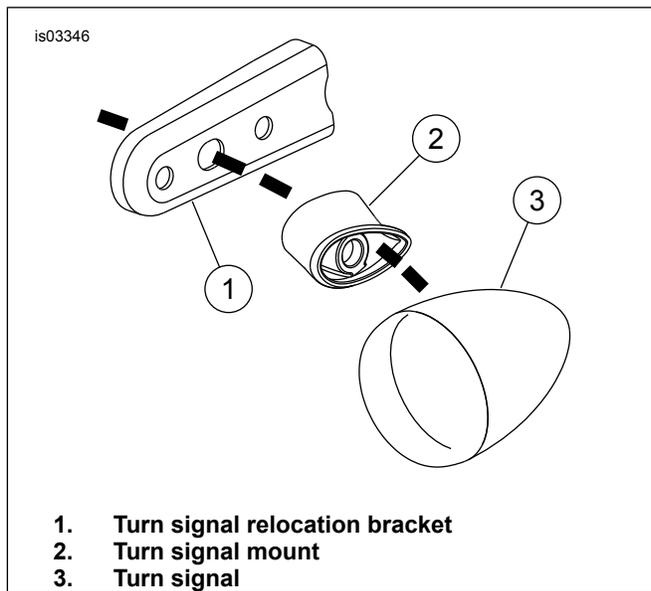

Figure 7. Feed Wiring Through Relocation Bracket and Mount
1. See Figure 7. Feed turn signal wiring and connector through middle hole in turn signal relocation bracket and under rear of fender support.